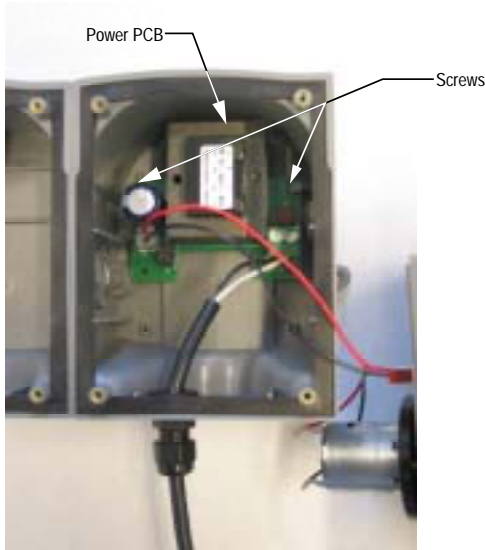

Figure 3. Pump Enclosure with Power PCB.
8. Align the power PCB in the pump enclosure and secure it into position with the two screws provided. See Figure 3.